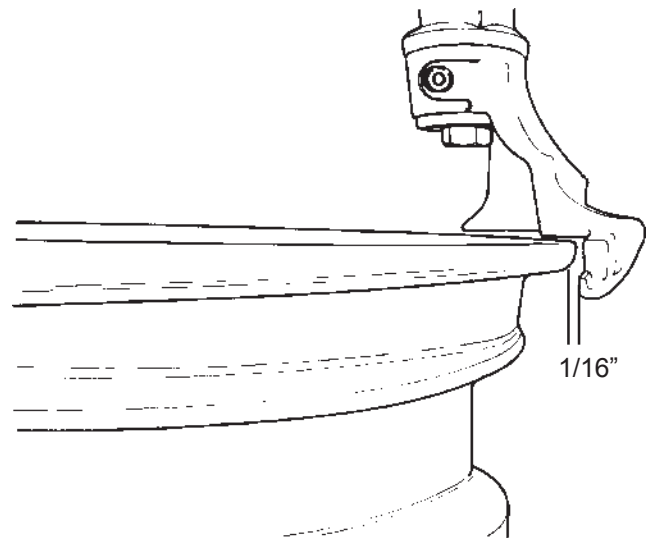

Fig. 15
E. Gently position the mount/demount head in contact with rim edge, now manually push the lock lever up and lock it into place. The mount/demount head automatically moves vertically up and away from the rim edge. Turn the swing arm adjustment knob clockwise until the mount/demount head moves horizontally away from the rim flange by approximately 1/16" (2mm): this is necessary to avoid any rim contact during the changing process. (Fig. 15).